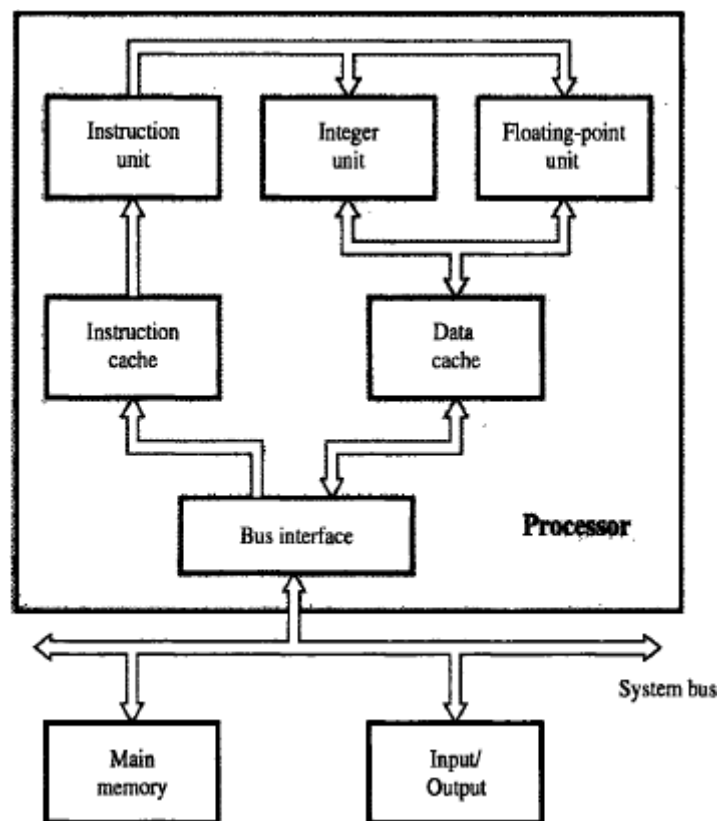

Figure 7.14 Block diagram of a complete processor.
- Integer Unit** → To process integer data. (Figure 7.14).